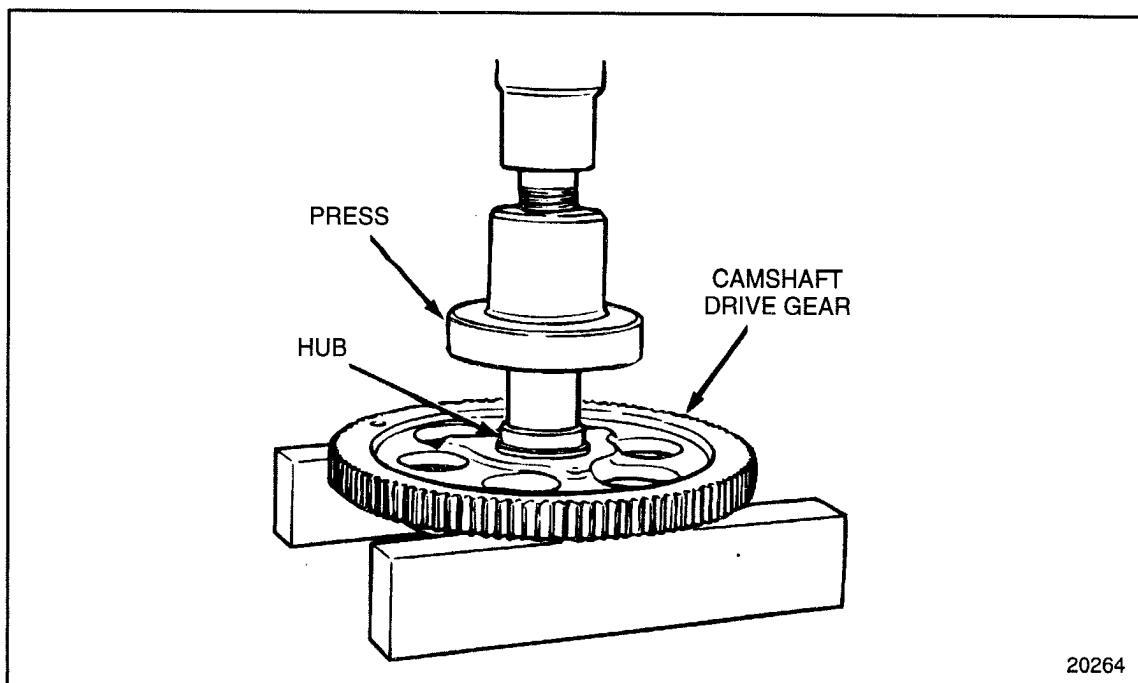

FIGURE 1-301 Camshaft Hub Removal
9. Press the hub out of the camshaft drive gear until the hub separates from the camshaft thrust plate. See Figure 1-301.